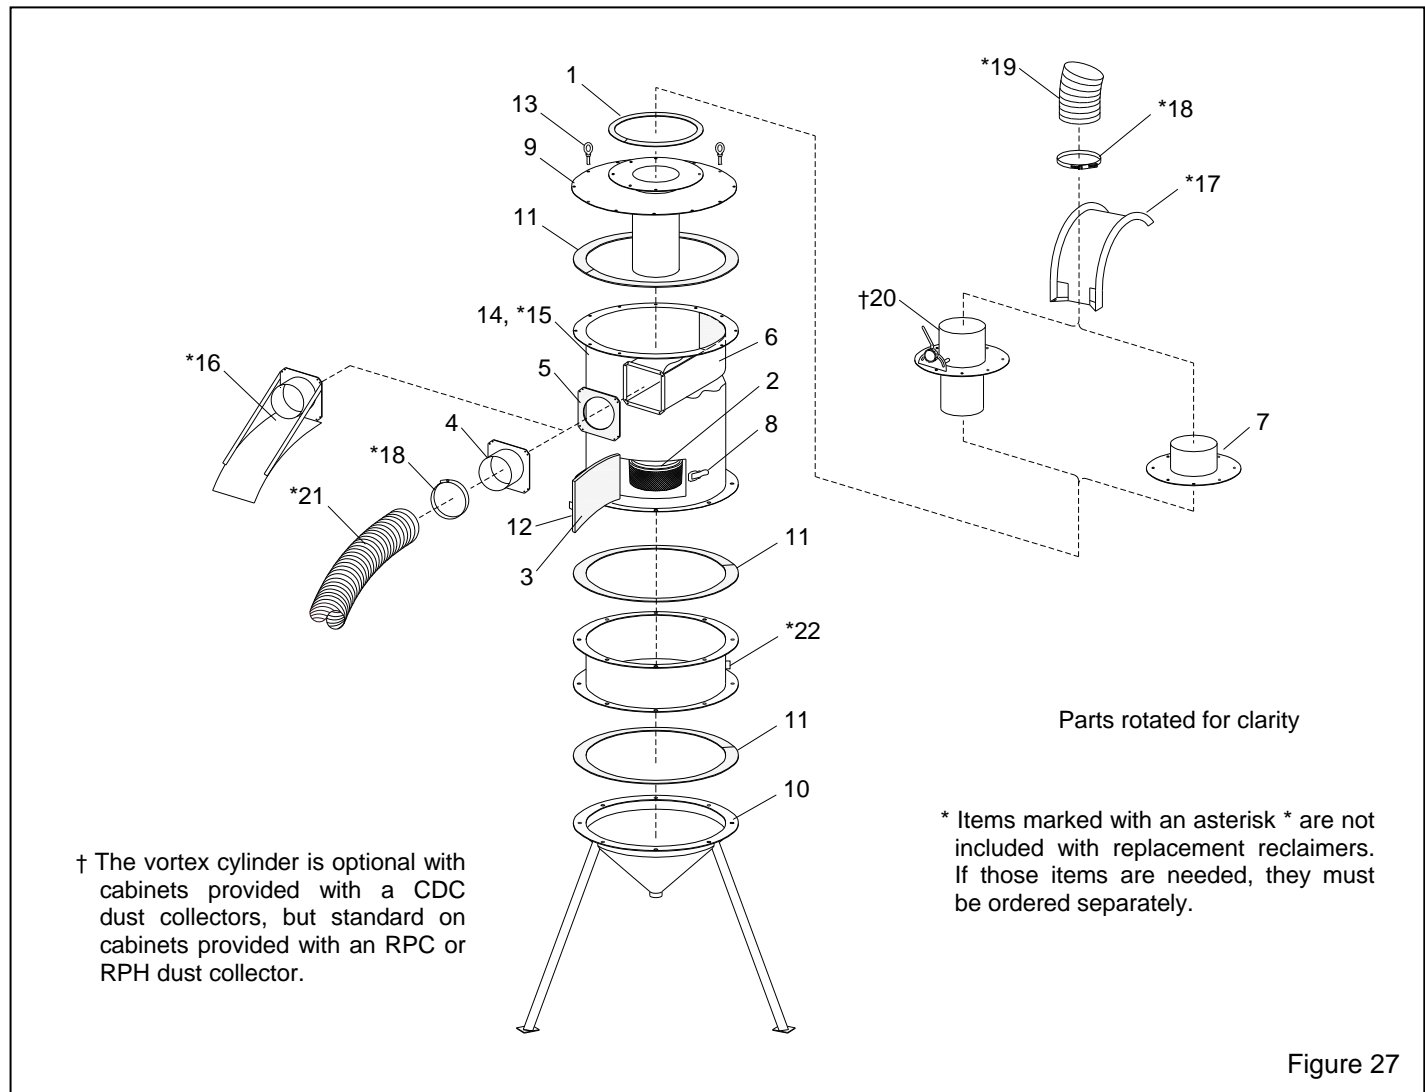

Figure 27
Reclaimer for BNP-166 is the same as the 900 cfm reclaimer used with the BNP-164, except **reclaimers used with a 166 must use a 24030 extension hopper**. If an extension is needed, refer to Section 9.11., Figure 27, and order the extension and 14 ft. of 1/8" x 2" adhesive backed gasket, Stock No. 13089, in addition to the reclaimer.
9.11 900 CFM Reclaimer Replacement Parts, Figure 27